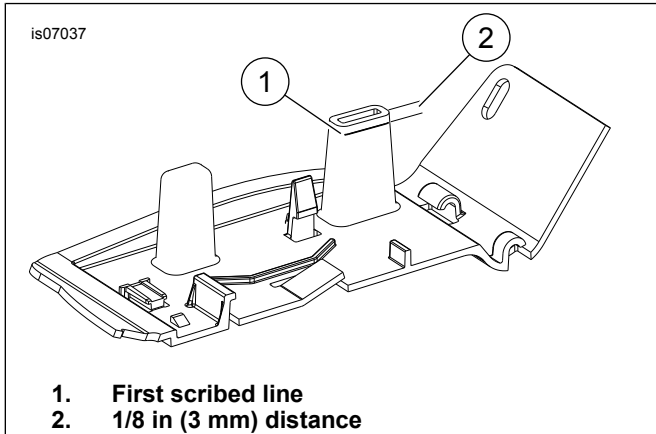

Figure 2. Cut Top of Tower
- f. See Figure 2. Measure from the first line (1), and mark or scribe a second line (2) 3 mm (0.12 in) above the first line.